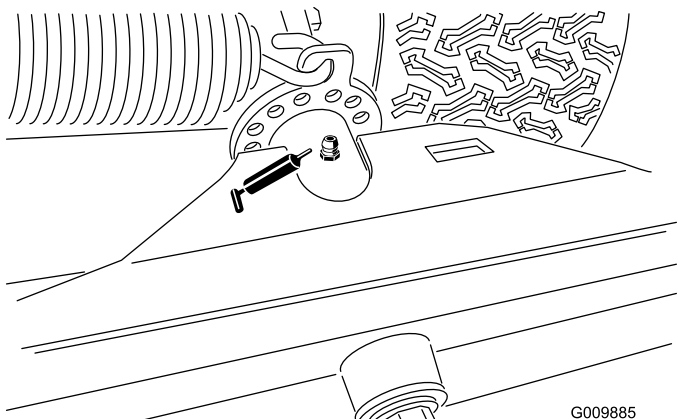

Figure 40
- Rear lift cylinder pivot (Figure 40)